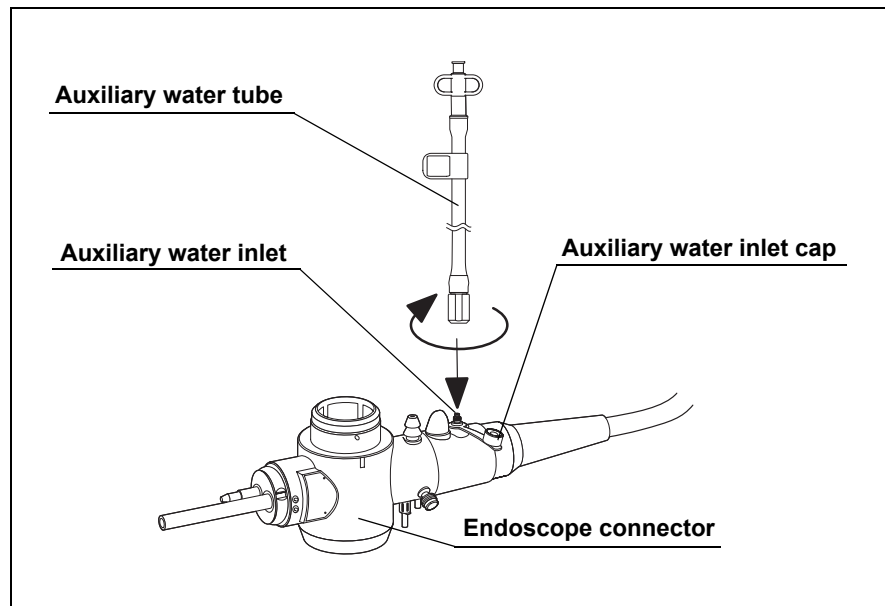

Figure 3.19
9. Open the auxiliary water inlet cap (for endoscopes with auxiliary water feeding only, see Figure 3.19).
10. Connect the auxiliary water tube to the auxiliary water inlet on the endoscope connector and turn it clockwise until it stops (for endoscopes with auxiliary water feeding only, see Figure 3.19).